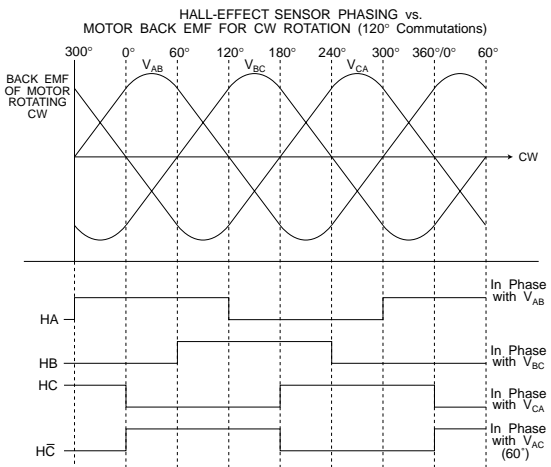

FIGURE 4. HALL PHASING
The PWR-82520R will alternately operate with Hall phasing of 60° electrical spacing. If 60° commutation is used, then the output of HC must be inverted as shown in FIGURES 4 and 5. FIGURE 4 illustrates the Hall sensor outputs along with the corresponding back emf voltage they are in phase with.
** DIR is based on the convention shown in FIGURE 4.